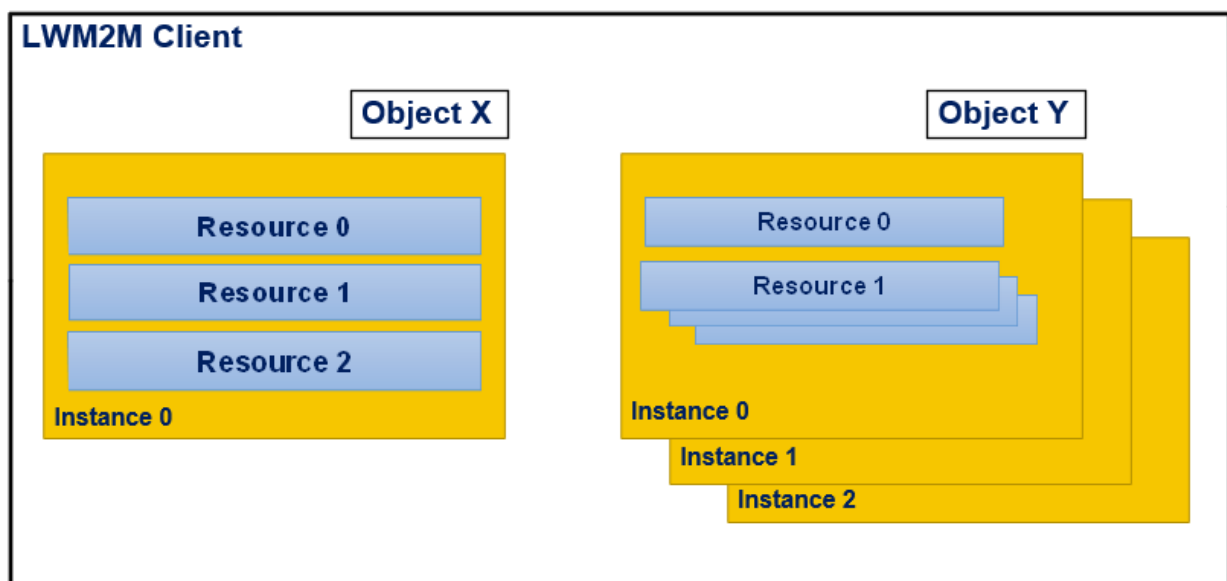

Figure 12: Object Model and comparison between single and multiple instance objects
The Figure 12 below shows the comparison between a single-instance object (X) and a multiple-instance one (Y).
In the Figure 12, object X is a single-instance object, so only one instance is present (Instance 0).